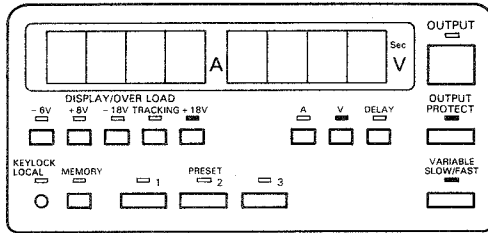

Fig. 12
- 1) Set the LEDs as shown in Figure 12. In the Figure, the VARIABLE KEY (14) is selected as an output setting key.
- 2) Press the OUTPUT KEY (17), to turn "ON" the output.